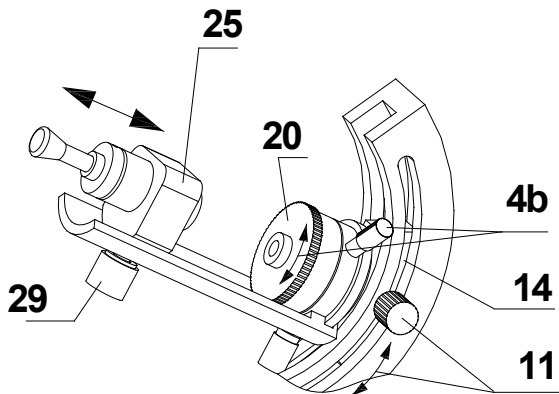

Figure 13
4. Positioning Samples (Figures 13, 14, 15)